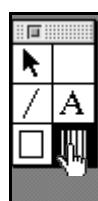

Figure 2-4 Select Bar Code Tool
4. Select the bar code tool from the tool palette. See Figure 2-4.